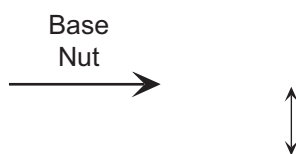

figure 2
1. Turn Bypass to the “Bypass” Position. (*see diagram on page 8, figure 2*)
8. With the system off of the plumbing, you can loosen the base nut to remove the valve from the media tank. *see figure 2*
1. Place the new control valve over the base connection, insert the connection fitting into the base. *see page 16 figure 2*